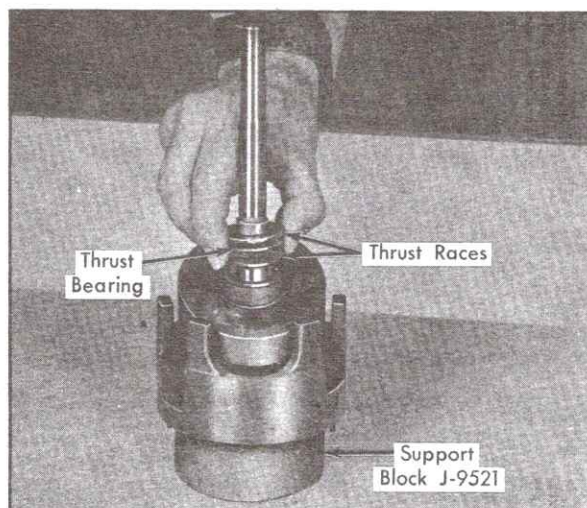

Fig. 1-53 Removing Front Thrust Races &amp; Thrust Bearing
11. Remove front combination of thrust races and thrust bearing from shaft, Fig. 1-53. Discard races and place bearing in front bearing slot of Parts Tray.